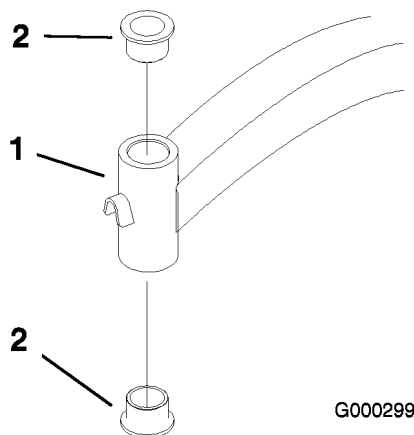

Figure 45
4. Insert a pin punch into the mounting tube and carefully drive out the bushings (Figure 45). Clean the inside of the mounting tube.